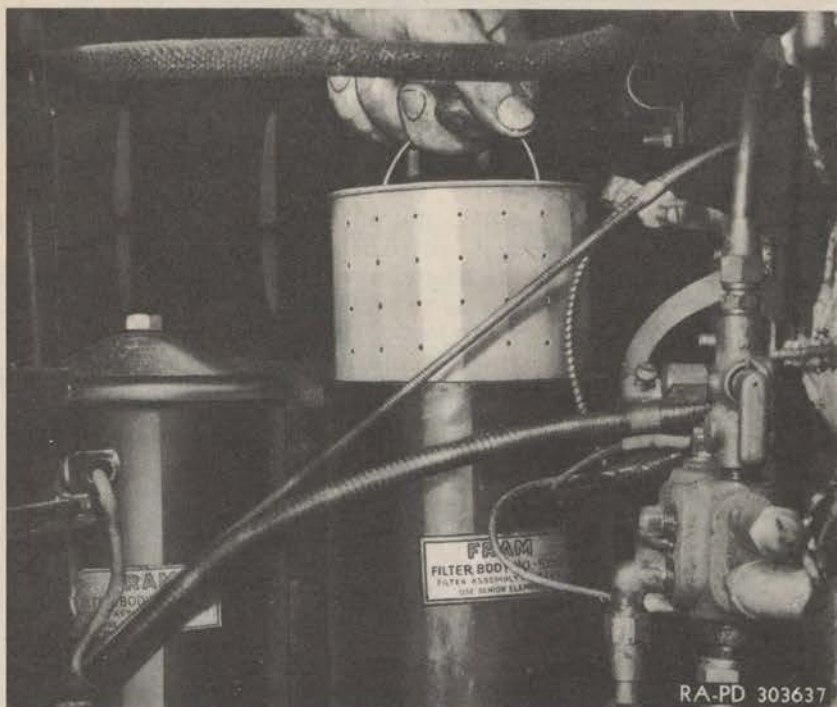

Figure 53—Removing Oil Filter Cartridge
b. **Service Oil Filters.** Remove the drain plug at the base of each filter assembly and drain out the oil which is held in the filter cases. Remove the nuts from the tops of the filter cases and take off the copper and paper gaskets which are under them. Then lift off the covers. The cartridges can then be lifted out of the cases for cleaning or replacement (fig. 53). If the cartridges are not replaced, the sludge and dirt particles should be scraped from them with a wooden paddle. The oil filter cans should be wiped out to remove all traces of sludge and dirt. *NOTE: The rear oil filter is located underneath one of the vehicle horn*